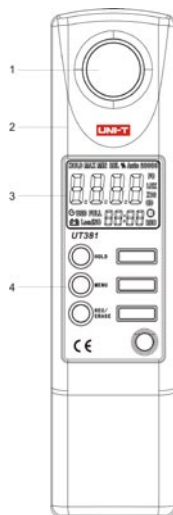

Figure 1
1. Meter structure (Figure 1, Table 1)